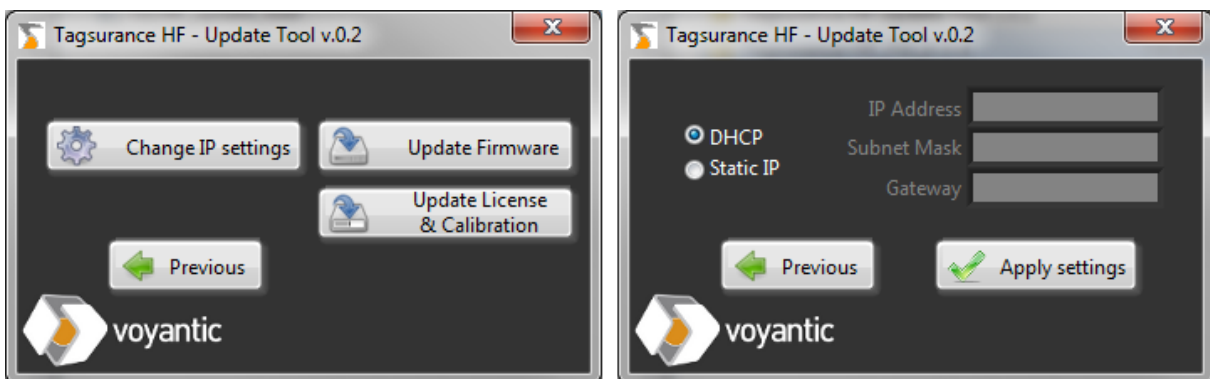

Figure 36: Tagsurance HF update options (left) and IP settings options screen (right)
4. In the next screen (Figure 36) it is possible to choose the update action to be done.